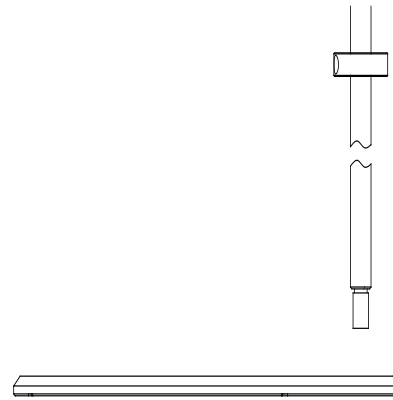
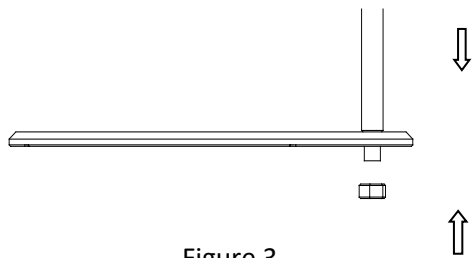

Figure 2
Figure 3
3. Attach the stand rod to the stand base with supplied nut (refer to figure 2 and figure 3).